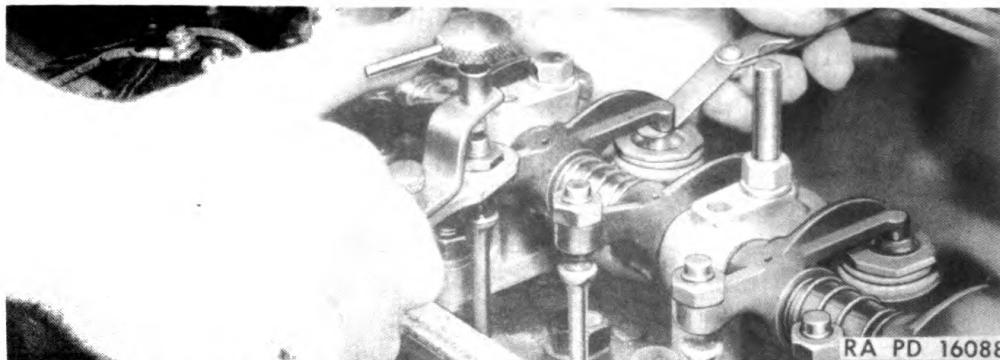

Figure 128—Valve lash should be adjusted with engine at normal operating temperatures
(3) **Adjust valve clearance (Fig. 128)**